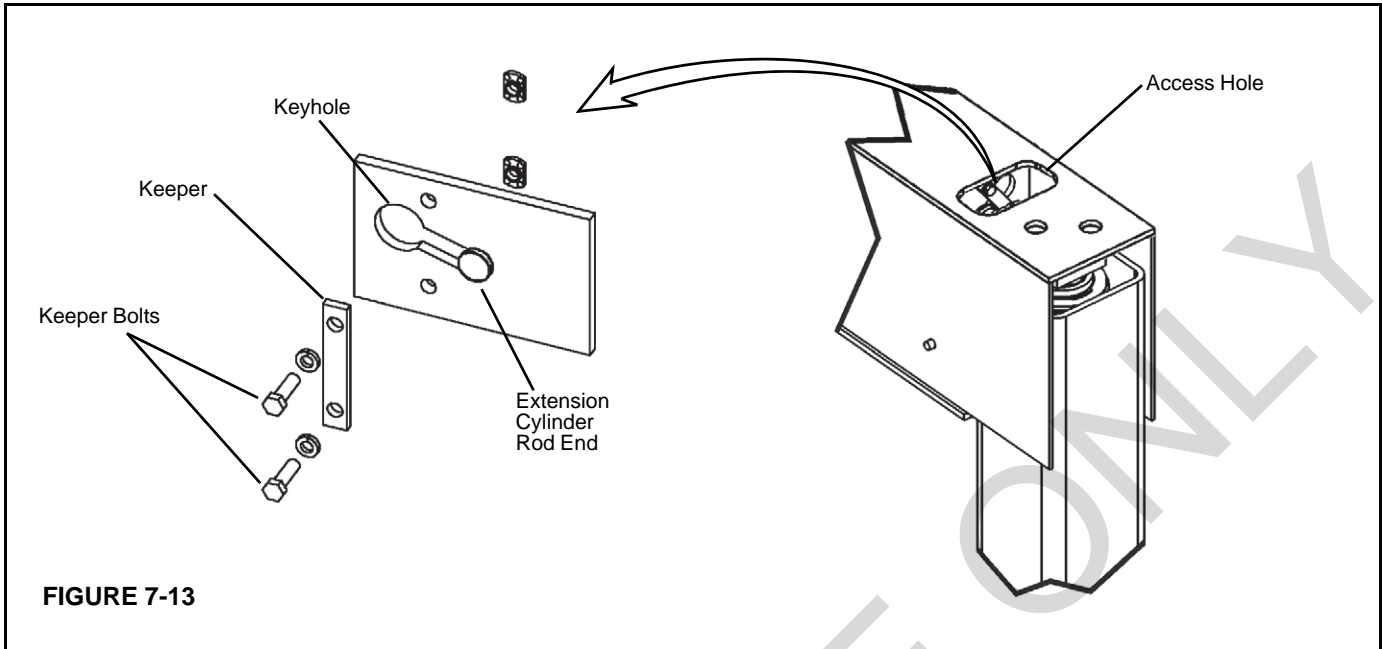

FIGURE 7-13
1. Extend the outrigger enough to expose the access hole on top of the outrigger beam (Figure 7-13).
5. Remove the keeper from the keyhole (Figure 7-13) and slide the extension cylinder rod out of the keyhole.